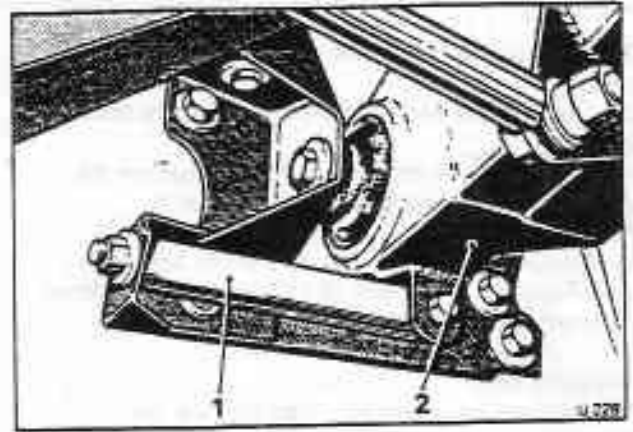

Fig. H7-3 Jury bolt in position
7. Remove one of the small dampers situated beneath each end of the rear crossmember and insert a jury bolt RH 9575 (see fig. H7-3). With the jury bolt in position, replace the damper from the other end of the crossmember with a jury bolt.